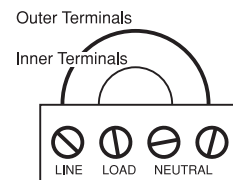

Figure 1
2. See figure 1 for wiring terminals.